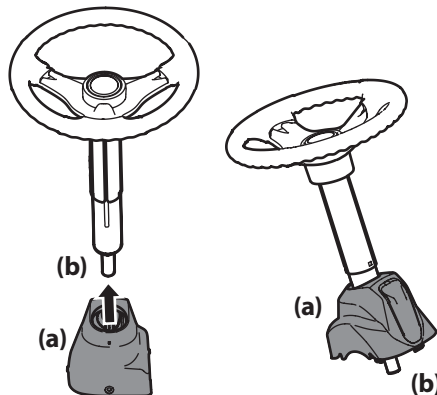

Figure 2-1
1. Slide the pedestal cap (a) onto the steering shaft (b) so that when the steering shaft (b) is installed on the tractor, the pedestal cap (a) will be upright as shown in Figure 2-1.